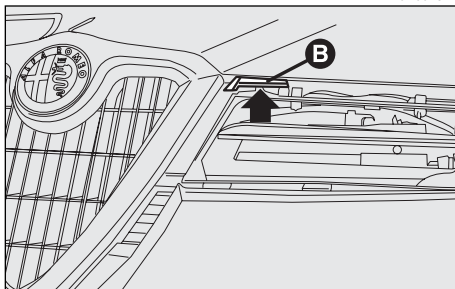

fig. 149
- Press the safety lever (**B**-fig. 149) upwards.